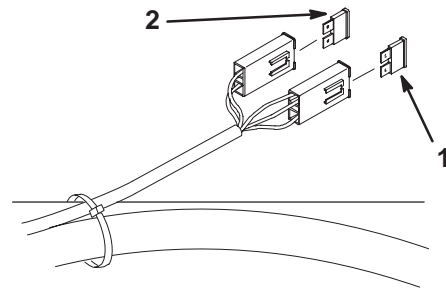

Figure 74
2. To replace a fuse, pull out on the fuse to remove it (Fig. 74).